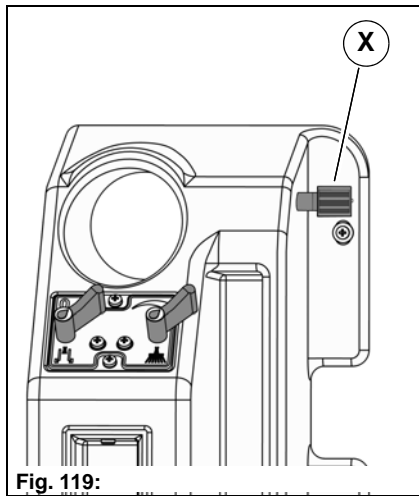

Fig. 119:
2. Raise the front tool carrier and fix it in the upper position with the lowering valve Fig. 119-X.
7. Open the lowering valve Fig. 119-X again.